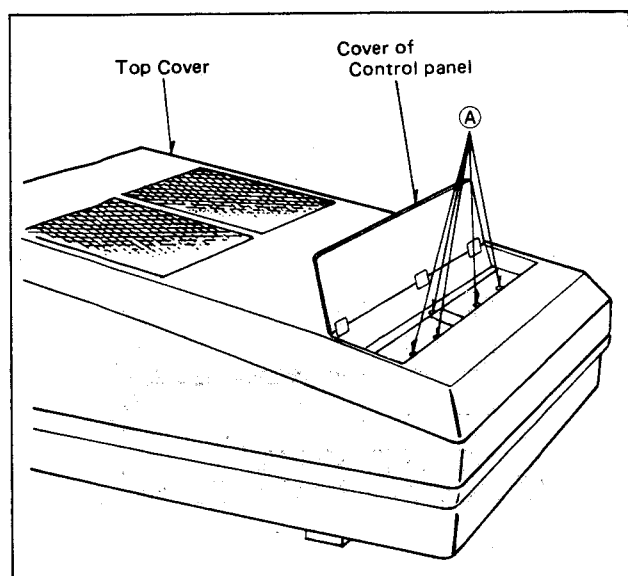

Fig. 1
- 2) Remove 5 screws (A) as shown in Fig. 1.